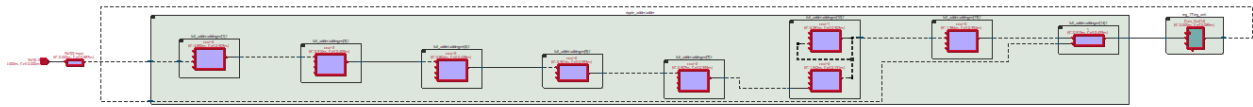

Figure 16
15. Click “Report All Summary” to generate the reports. All the timing report is presented in “Report” window as shown in figure 16. The most important reports are Setup and Hold. The Maximum Frequency is calculated using the setup time.
17. If you would like to see the path diagram, right click the data path cell as shown in figure 16.